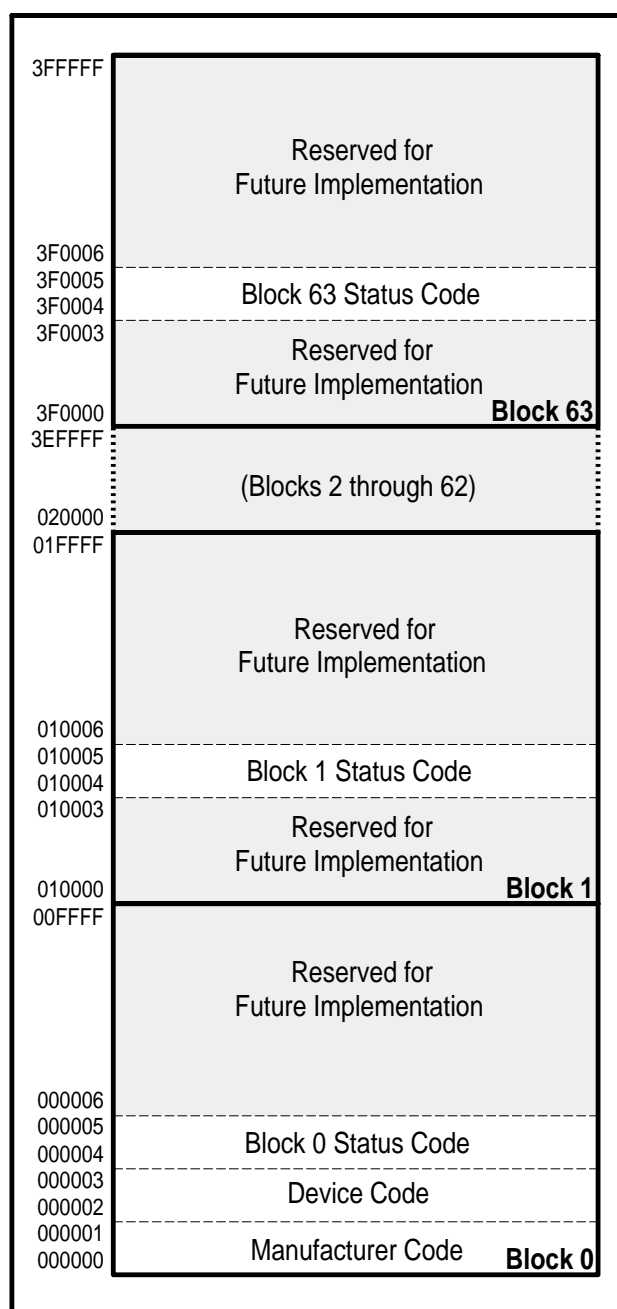

Figure 4. Device Identifier Code Memory Map
The read identifier codes operation outputs the manufacturer code, device code, block status codes for each block (see Figure 4). Using the manufacturer and device codes, the system CPU can automatically match the device with its proper algorithms. The block status codes identify locked or unlocked block setting and erase completed or erase uncompleted condition.
| Read Identifier Codes | 9 | V _{IH} | V _{IL} | V _{IL} | V _{IL} | V _{IH} | See Figure 4 | X | Note 5 | High Z |
IA=Identifier Code Address: see Figure 4.
The identifier code operation is initiated by writing the Read Identifier Codes command. Following the command write, read cycles from addresses shown in Figure 4 retrieve the manufacturer, device, block lock configuration and block erase status (see Table 5 for identifier code values). To terminate the operation, write another valid command. Like the Read Array command, the Read Identifier Codes command functions independently of the V_{PP} voltage and $RP\#$ must be V_{IH} . Following the Read Identifier Codes command, the following information can be read:
1. X selects the specific block status code to be read. See Figure 4 for the device identifier code memory map.